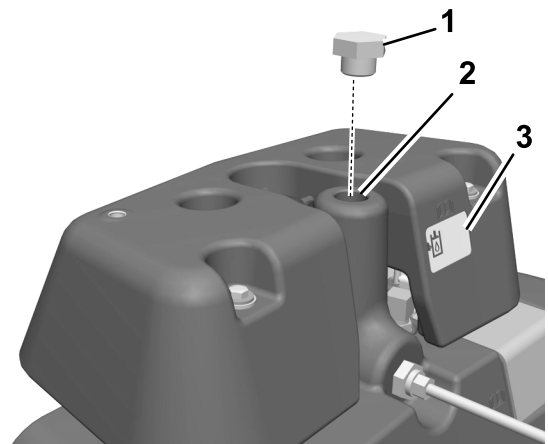

Figure 8 G016178
31. Remove and discard the breather, and top off the main hydraulic tank with hydraulic oil (Figure 8).
32. Install a plug in place of the breather (Figure 8).
33. Fill the leak detector tank with hydraulic oil until the oil level is at the middle of the sight window on the tank (Figure 8).